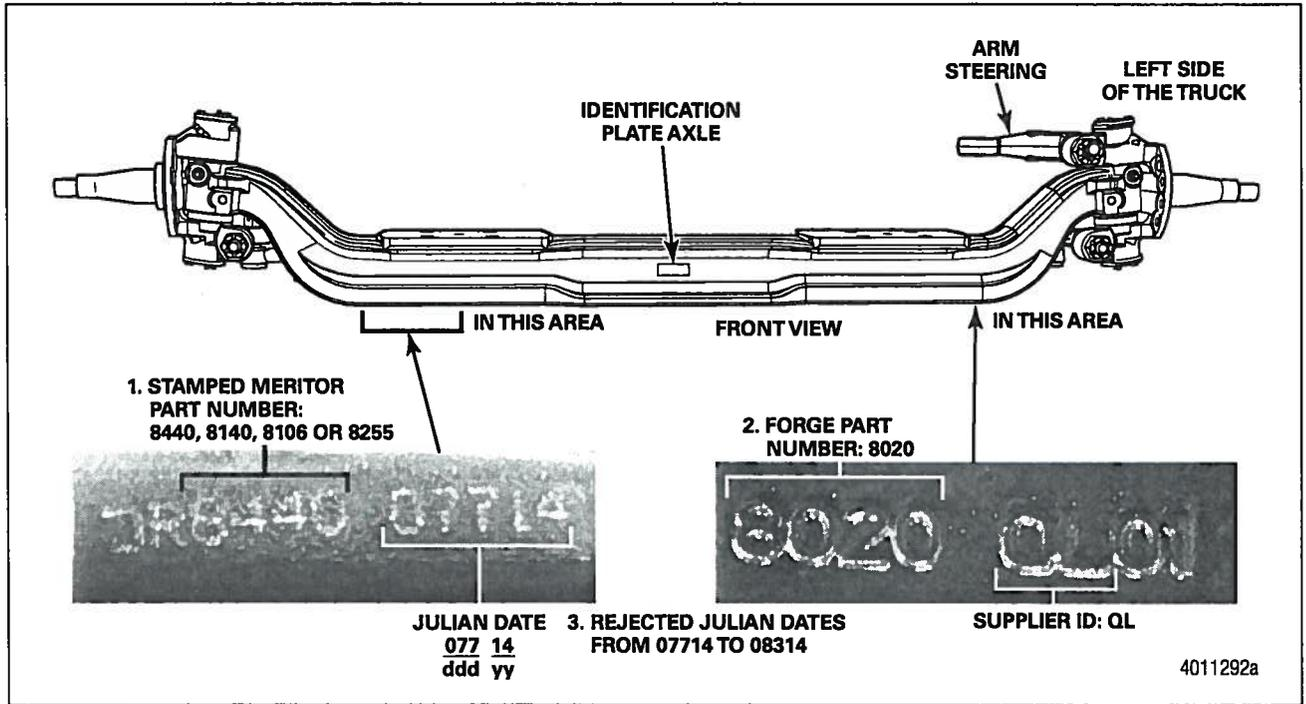

Figure 2
2. Find and record the stamped date code located on the right side front of the axle, and the forging part number and plant identification on the left side of the axle. It may be necessary to clean paint and debris from the area in order to see the numbers. Figure 2.
3. Check the numbers to determine if the axle meets the following requirements. The axle must be replaced if the numbers meet ALL of these criteria. Figure 2.